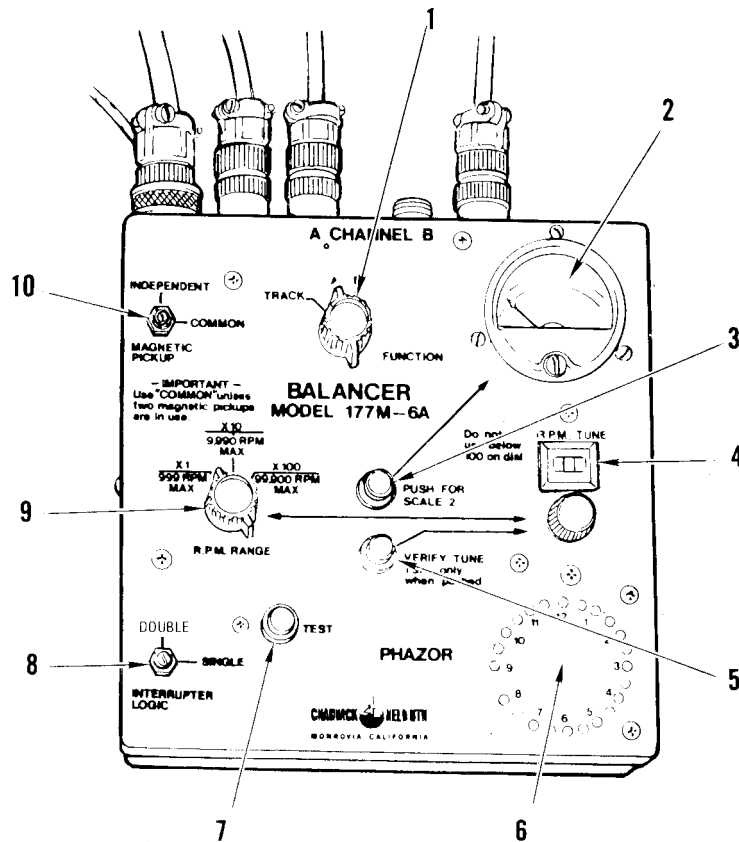
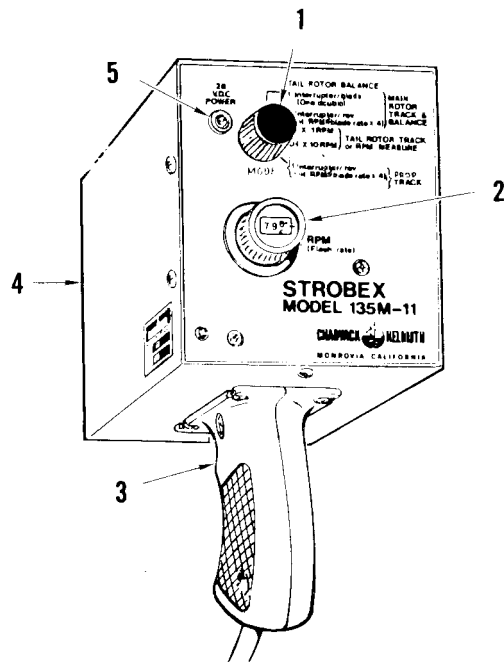
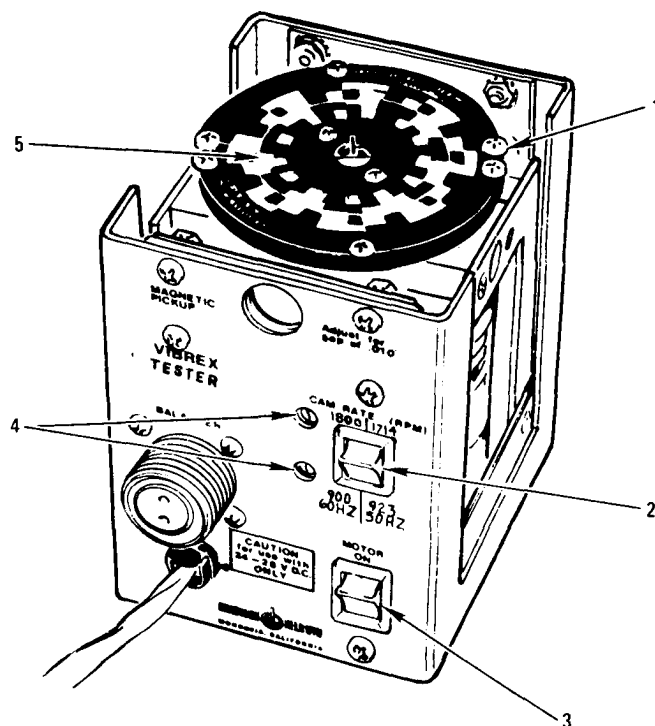

Figure 2-1. Balancer Controls and Indicators
Figure 2-2. Strobex Controls and Indicators
Figure 2-3. Tester Controls and Indicators
**2-2 Controls and Indicators.** Figure 2-1 and table 2-1 illustrates and describes the controls and indicators for the Balancer, figure 2-2 and table 2-2 illustrates and describes the controls and indicators for the Strobex, and figure 2-3 and table 2-3 illustrates and describes the controls and indicators for the Tester